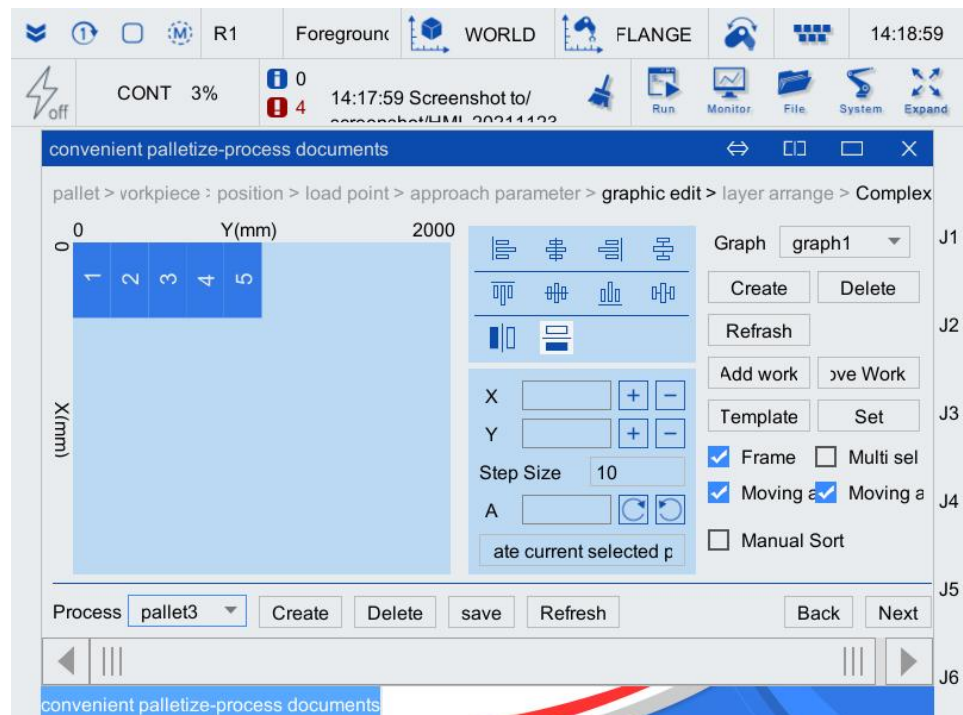

Figure 3-47 Graphic editing interface of the first layer of stacks in multiples of five
- Step3. Drag the workpieces with the stylus to make the arrangement of workpieces as shown in Figure 3-47.